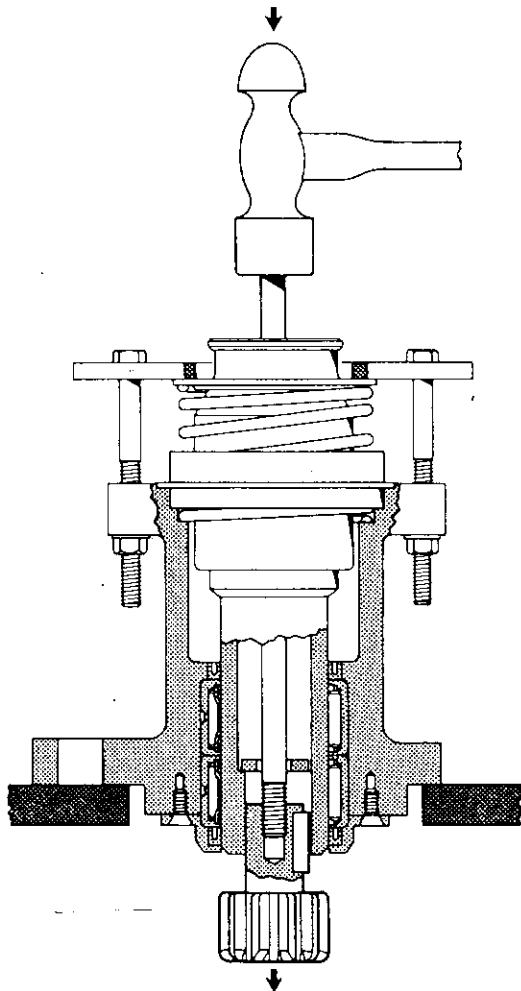

Figure 4.5
7. Thread an 8" piece of 3/8" stock (3/8 - 24 x 1/2"). Screw the threaded end into the threaded bore of the facet pinion (45). Remove the pinion from the vise. Using a medium sized ballpeen hammer, tap the threaded bar on the end to force the pinion from the drive housing. See Figure 4.5. Remove the pinion key (44).